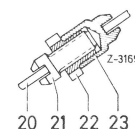

Fig. 16
12 Coat threads of thrust piece (21) and cylindrical portion of adjusting wheel (22) with a longterm lubricant. Assemble adjusting device and turn completely back (Fig. 16).